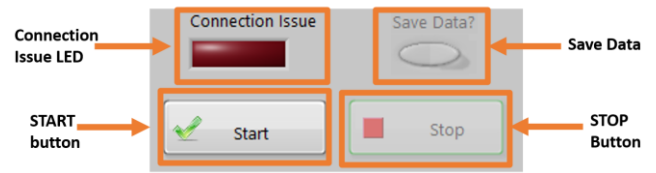

Figure 11. Buttons of the Front Panel
- Finally, a red LED and three buttons are located at the bottom of the left side of the Front Panel (Figure 11).